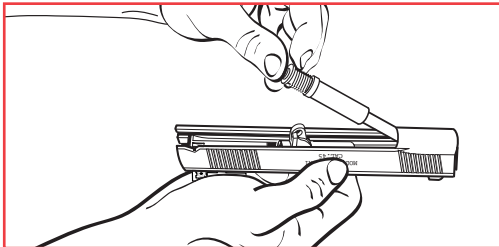

Figure 33-2
3. Remove recoil spring housing from the rear of the slide. (*Fig. 33-2*)